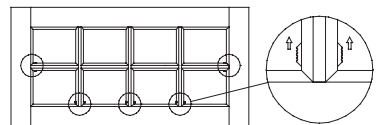

Fig. 1
1. Squeeze the clips and slide them towards the center of the window (Fig. 1).